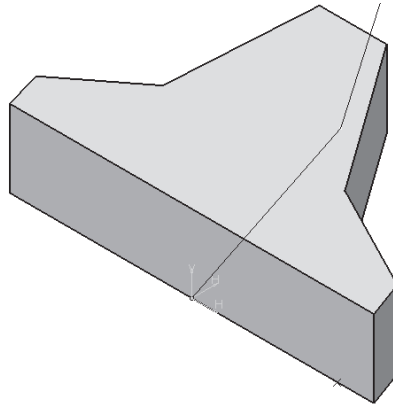

Figure 6-76 Model after creating the base feature
10. Choose the **OK** button from the **Pad Definition** dialog box to complete the feature creation. The model, after creating the base feature, is shown in Figure 6-76.